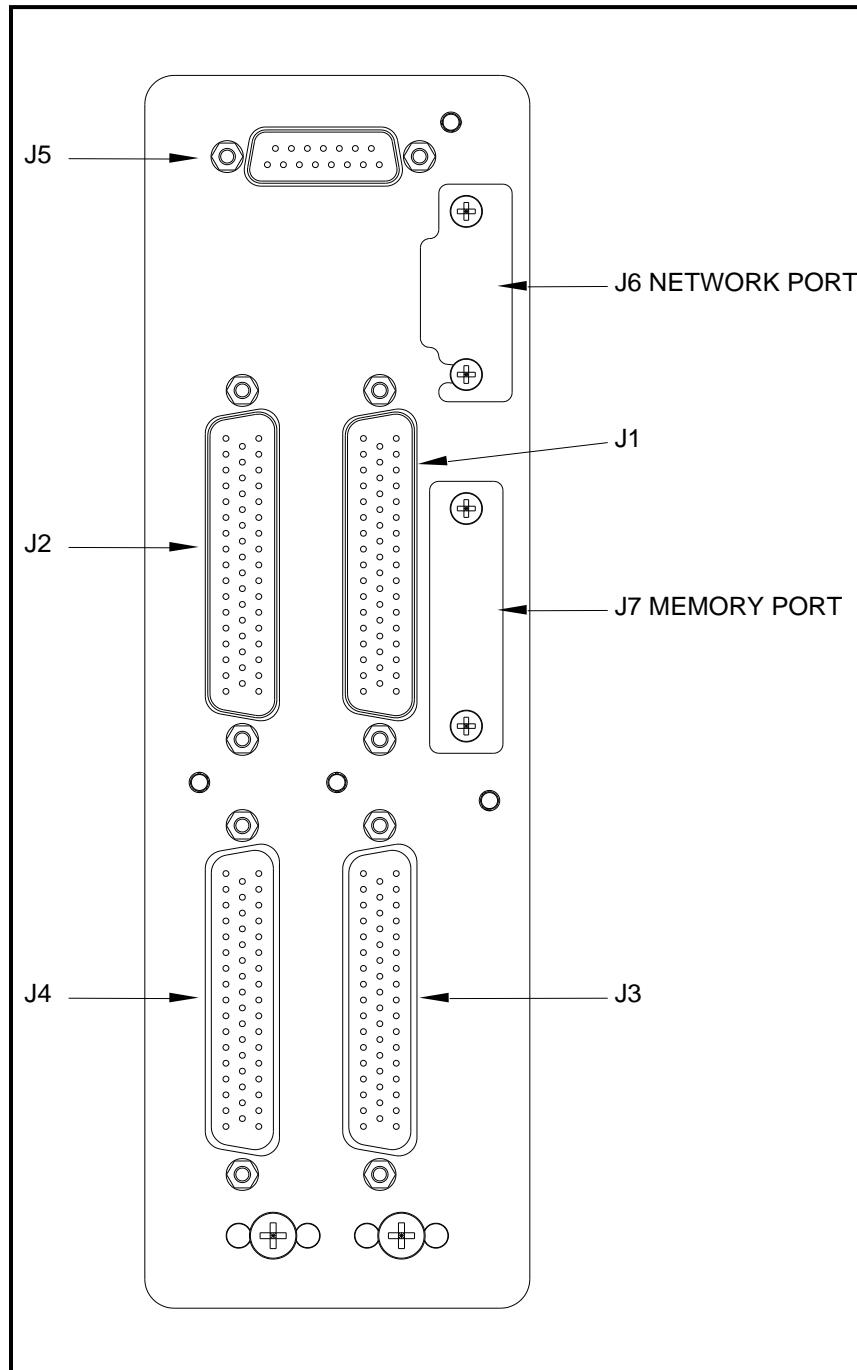
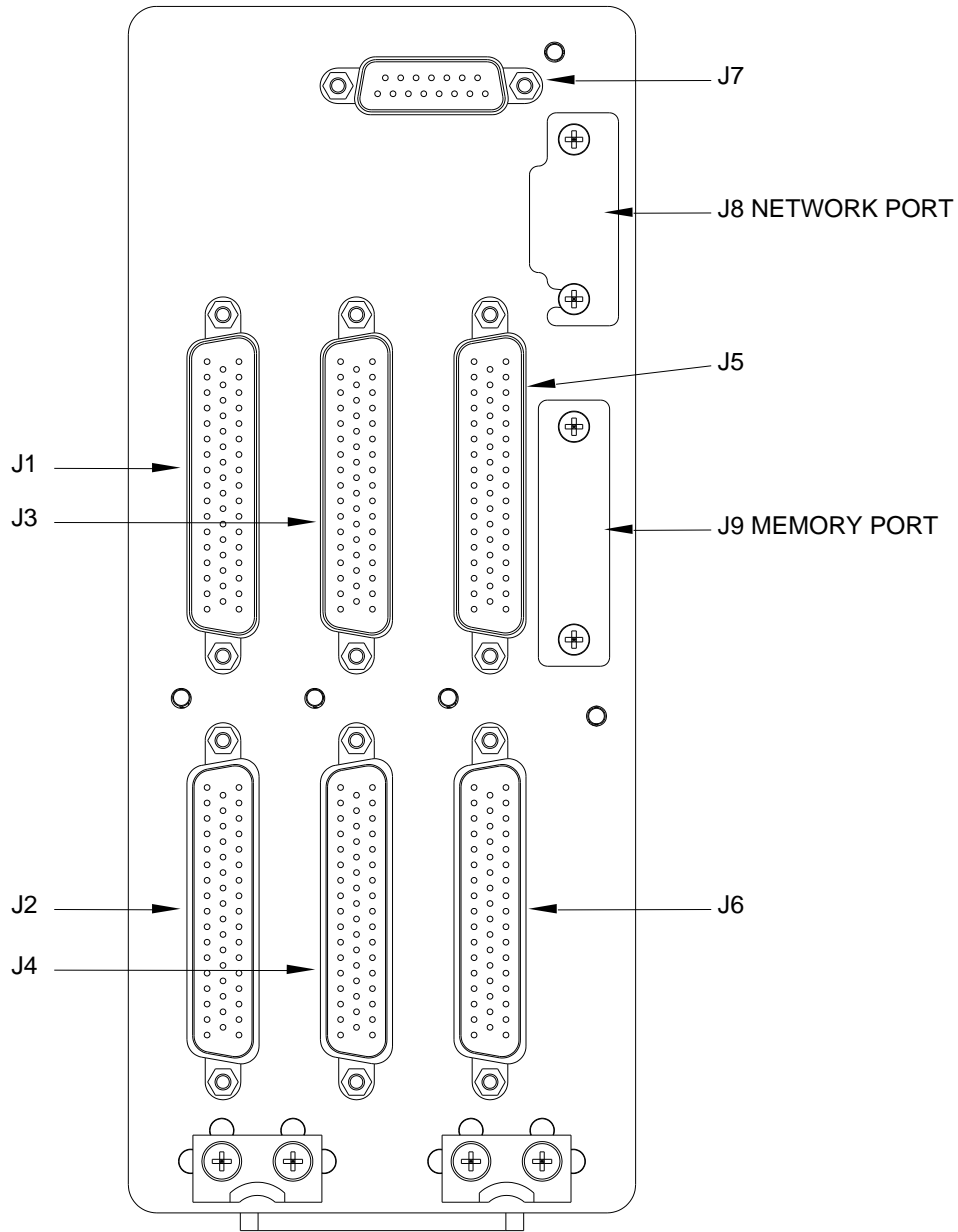

Figure 7: G13000 Digital Router Connector Layout
Figure 8: G13160 Digital Router Connector Layout
- b. Locate and install (4) #10-32 inserts (I/N 4) in accordance with Bell Repair Manual.
- c. Mount Tray to shelf using (2) Shims and (4) MS24693S276 Screws.
- e. Reconnect all applicable cables to the Digital Router. Reference Figure 7 and Figure 8 for all Digital Router Connection Ports.